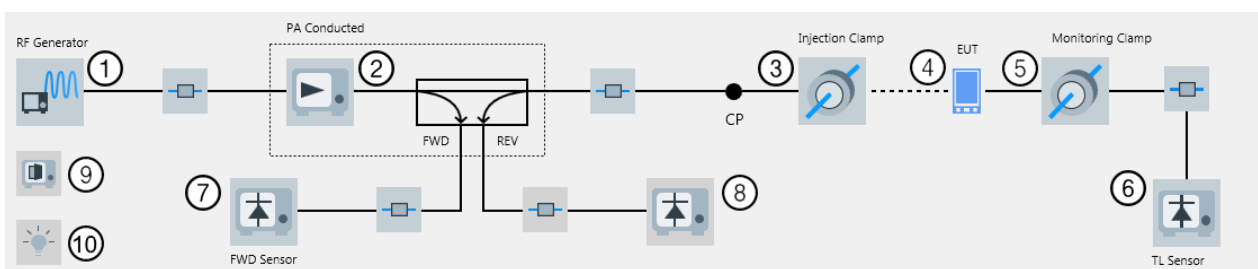

Figure 4-146: EMS hardware setup diagram (conducted) for BCI in EUT Test View
- The "EUT Test View" (see Figure 4-146)
In a typical BCI setup, the EUT's output is monitored by a transducer and TL sensor not only during calibration, but also during the test. Monitoring the live current with a monitoring clamp as in Figure 4-146 ("EUT Test View") allows controlling and limiting the forward power. Or, when you use the Substitution Method, it allows limiting the current.